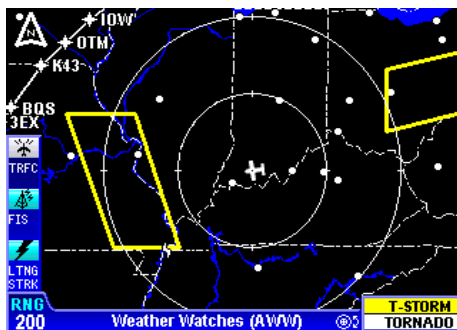

Figure 2-42
1. Press the **WX** Function Select Key until the FIS Graphics Page is displayed. If necessary, turn the Rotary Knob to obtain the Graphical Weather Watches display similar to Figure 2-42. **Weather Watches (AWW)** will be displayed at the bottom of the display.